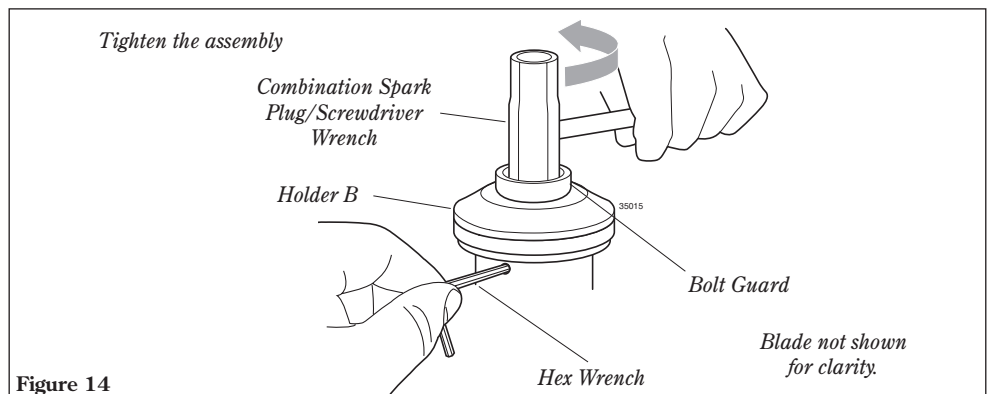

Figure 14
7. Lock Holder A to the gear case by inserting the long end of the hex wrench through both holes as done in step 1 and tighten the shaft bolt securely with the combination spark plug/screwdriver wrench. See Figure 14.